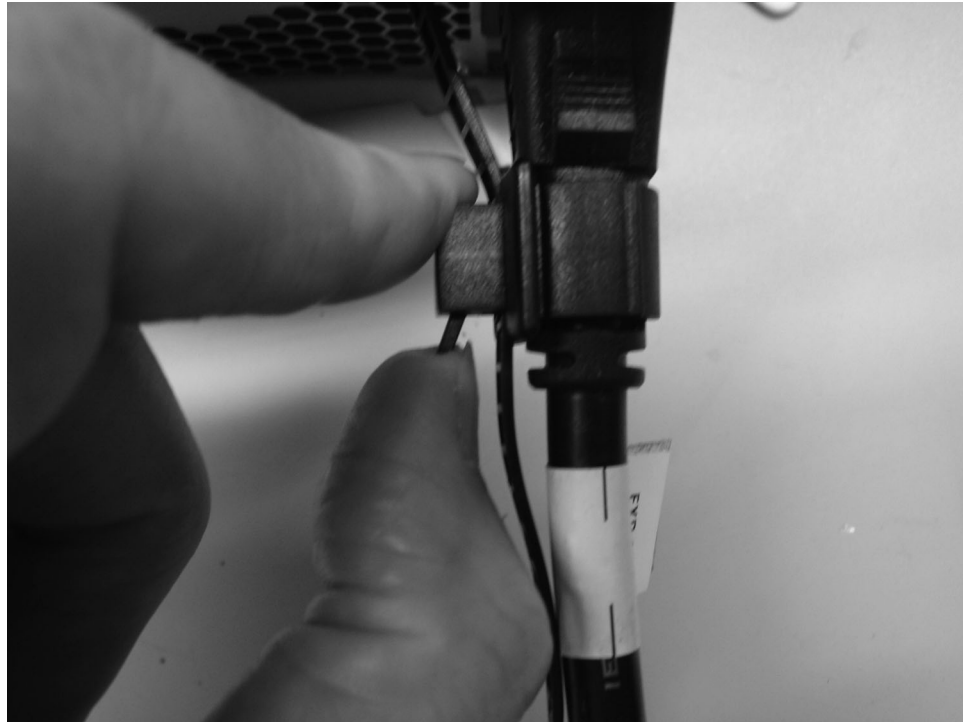

Figure 9. Sliding the cable retention bracket directly behind the power cord
6. Slide the cable retention bracket along the cord until it fits snugly against the plug end of the cable, as shown in Figure 9 on page 15.